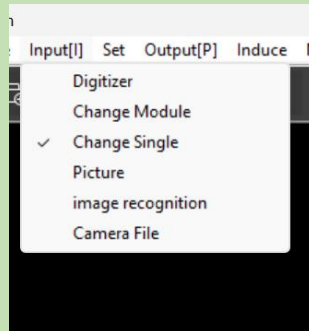

Figure 2-3
4.Input: Digital instrument (graphic reader), template machine, insert picture, camera file, picture vectorization (insert pattern graphic) (Figure 2-3).